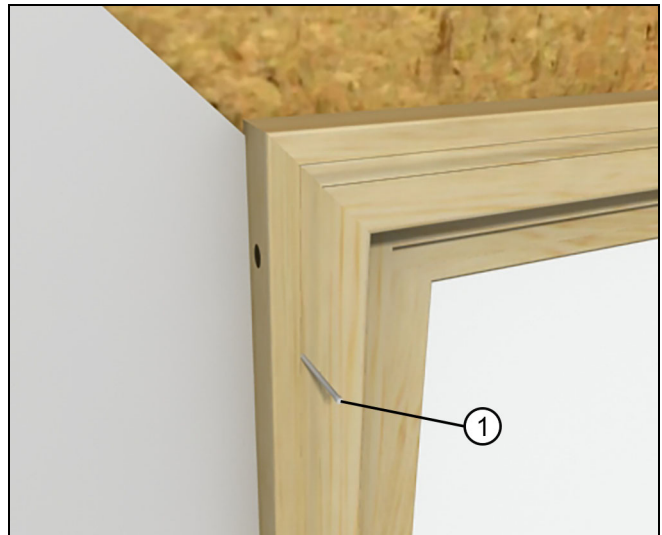

Figure 14 Tacking jambs within 4" of head jamb
2. Once level, tack the jambs within 4" (102) from the head jamb. If fastening through the exterior casing, use 16d casing nails. See Figure 14.